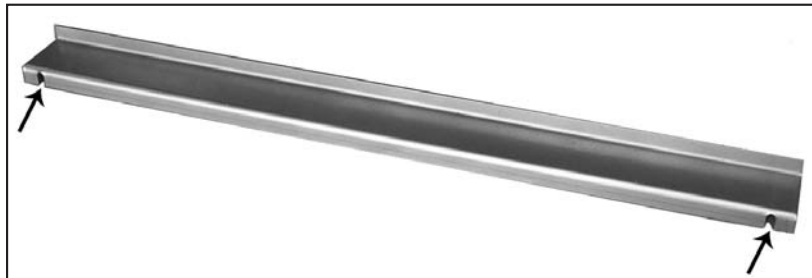

Figure 56: Brick panel bracket, slots shown.
1. Remove the two (2) screws from the rear of the baffle, use a $\frac{1}{4}$ " socket or a flat head screwdriver. Place the provided brick bracket (Figure 56) at the rear of the baffle with the slots over the screw holes (see Figure 57). Insert two (2) of the provided screws into the two (2) holes along the bottom of the baffle.